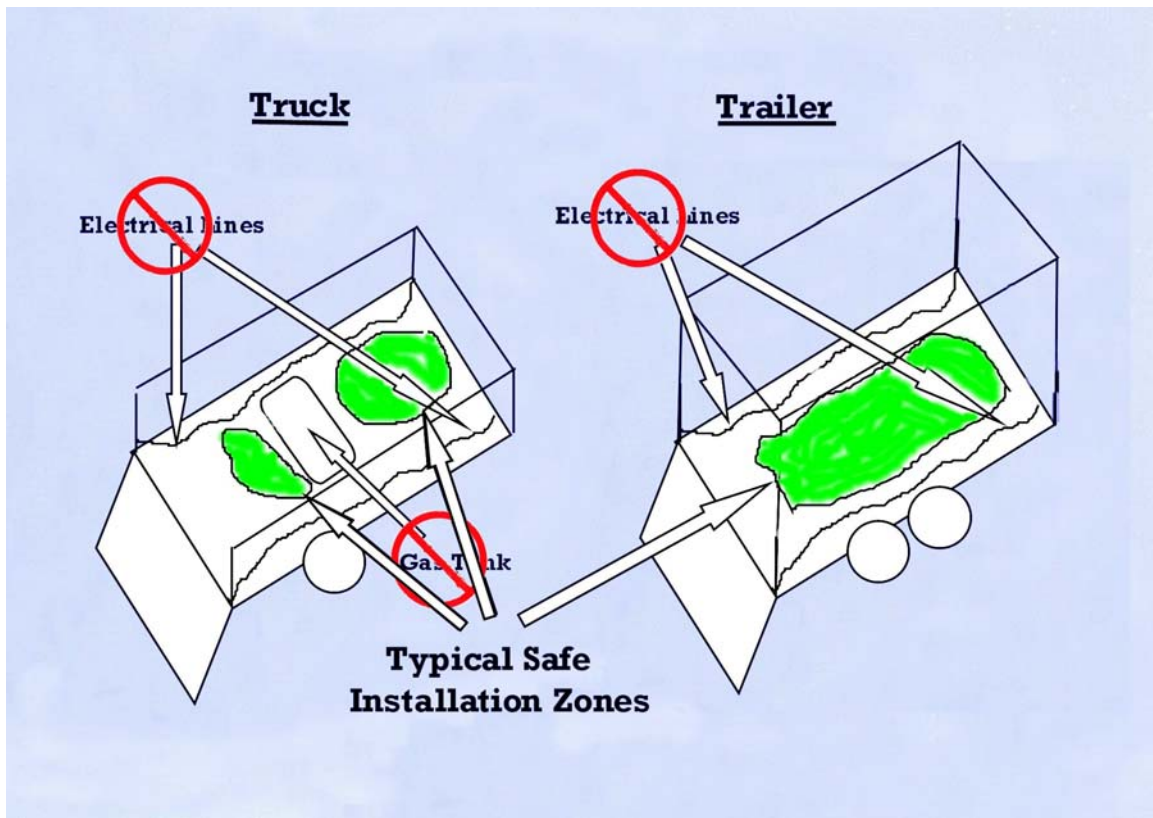

Figure 5: Typical Safe Installation Zones
Step 1: Determine the safe installation zones consistent with the “Important Positioning Parameters” (see figure 5):